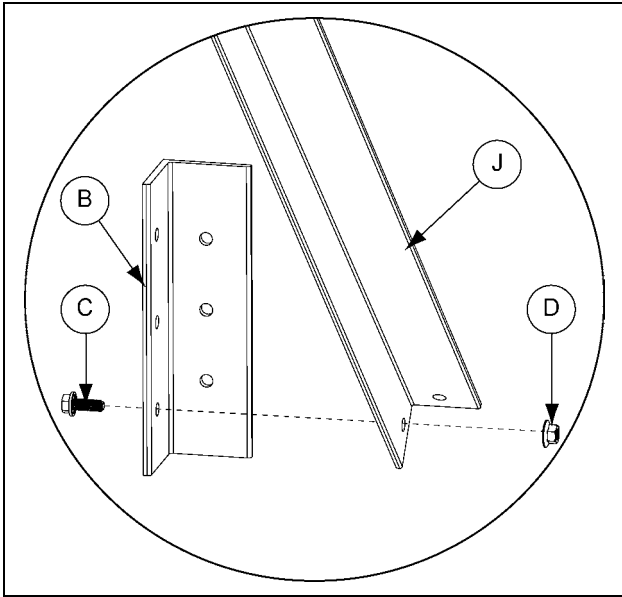

Figure 4F
5. Install the middle platform support to the wall clips (B) and a plank (F).
6. Install the end platform supports (J) to the wall clips (B), handrail posts, a shim and the plank (F).
7. Install the outer toe board to the planks (F). *(See Figure 4F.)*